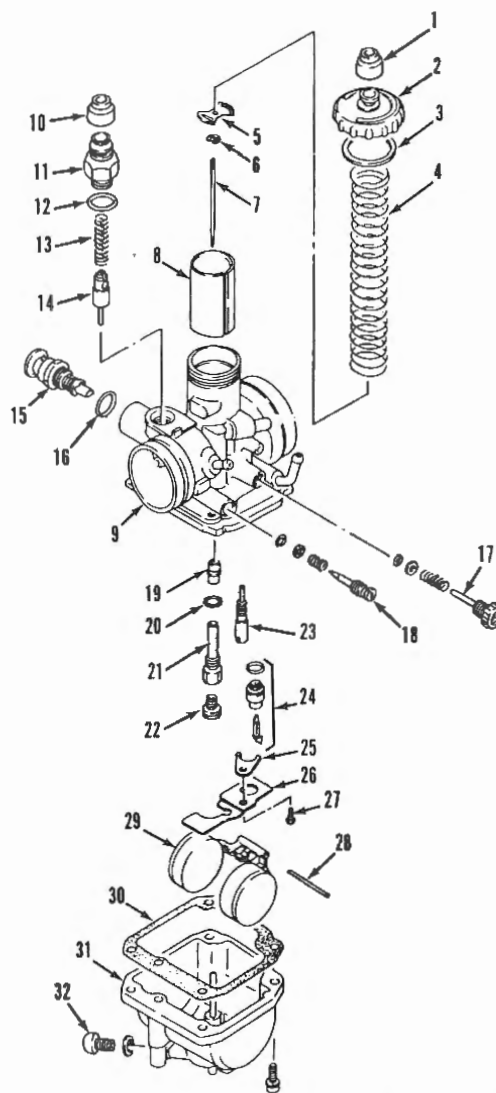
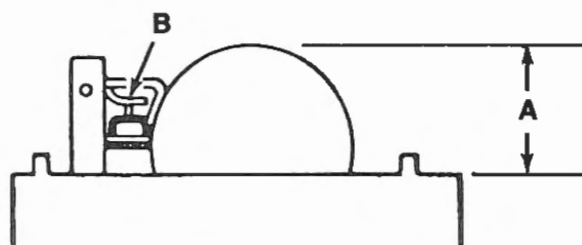

Fig. S13-7—Exploded view of Mikuni VM24SS carburetor.
Fig. S13-8—Float level (A) on Mikuni VM24SS should be 23.5-25.5 mm (0.92-1.00 in.). Bend float arm tang (B) to adjust.
Refer to Fig. S13-7 for an exploded view of the carburetor if complete disassembly is required. Note location of components during disassembly. Float height should be 23.5-25.5 mm (0.92-1.00 in.). To check float height, remove float bowl and invert carburetor. Measure distance (A—Fig. S13-8) between bottom float and gasket surface on carburetor body. Adjust float by bending float arm tang (B).